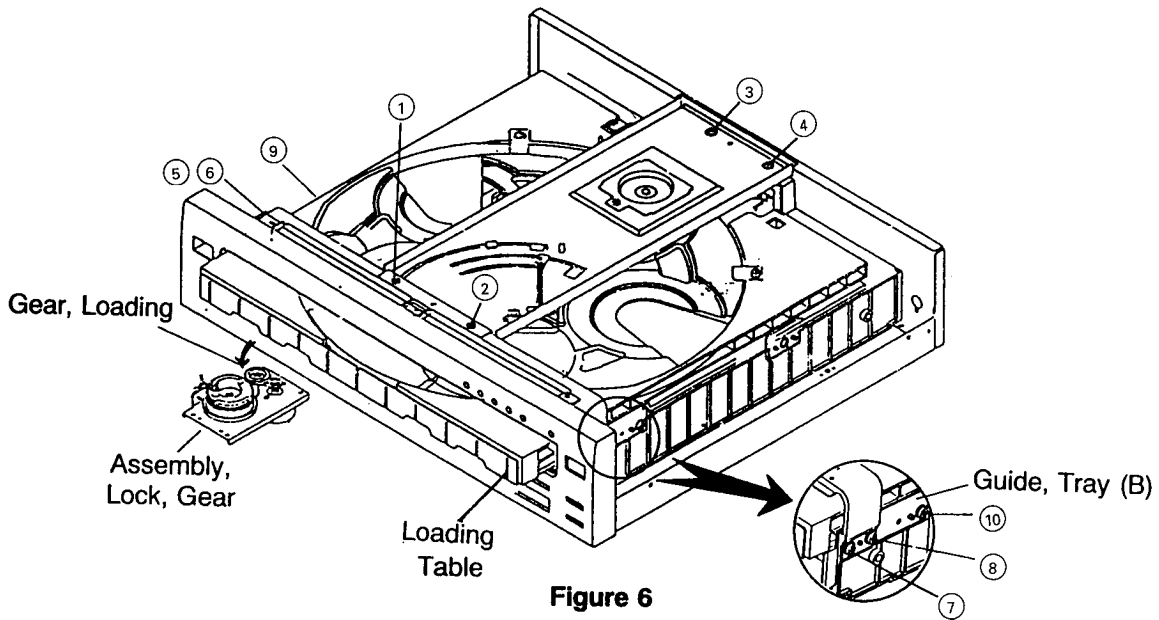

Figure 6
- 1) Remove 3 screws (① to ③).
- 3) Remove 3 screws (④ to ⑥).
- 4) Turn to the clockwise gear loading of the assembly lock gear (see figure 6).
4. Remove the loading table (Figure 6).